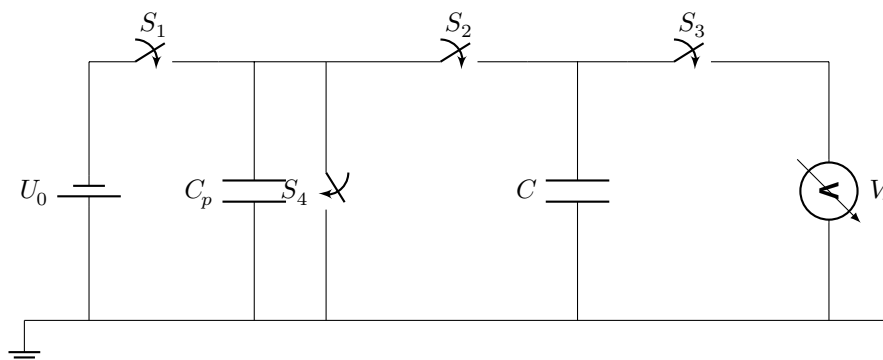

Figure 2: Circuit for measuring the capacitance C_p of the piezoelectric element.
The circuit diagram is shown in **Figure 2**. S_1 is used to charge the piezoelectric element, S_2 to transfer charge from the piezoelectric element to the known capacitor, S_3 to measure the voltage across the known capacitor, and S_4 to discharge the piezoelectric element. To discharge the known capacitor C at the beginning, keep S_3 closed long enough so that it discharges through the internal resistance of the voltmeter.
- C.1** Using **Figure 2**, write the complete measurement sequence for obtaining V_n on the answer sheet. Distinguish the initial discharge, the charge-transfer loop repeated n times, and the final voltage measurement. Write each step in the form "set/keep S_i " 0.6pt